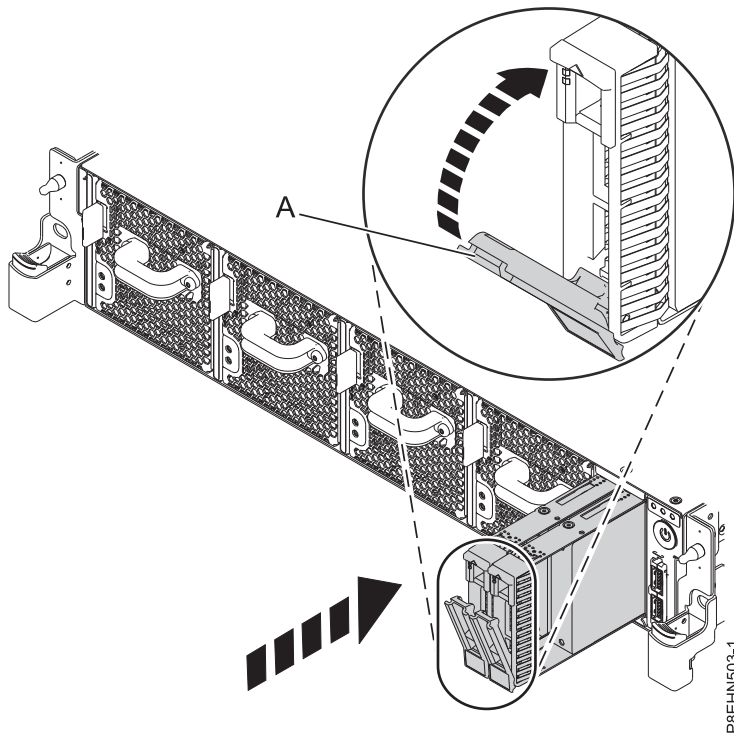

Figure 2. Locking the drive bay handle
8. Lock the drive bay handle (A) by pushing in the handle release. See Figure 2 on page 8.